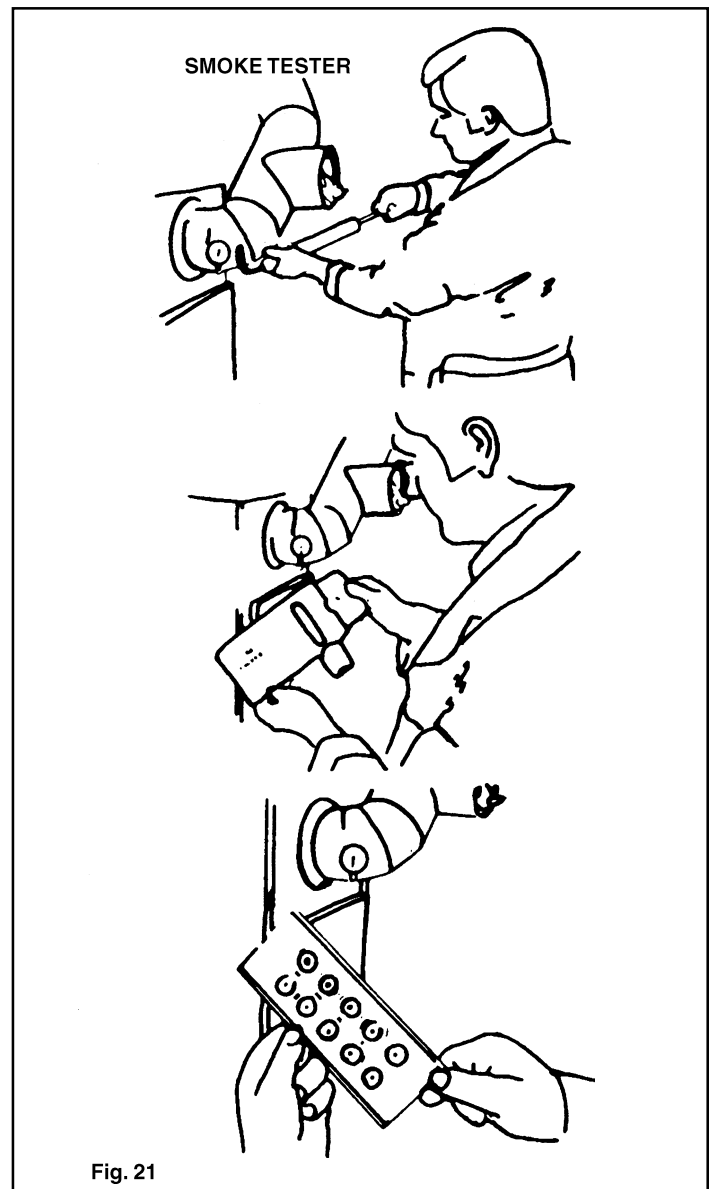

Fig. 21
Step 4. Use efficiency finder chart or stack loss slide rule to determine efficiency. (See Fig. 21.) Be sure to subtract room temperature from stack thermometer reading and use this net stack temperature for determining the efficiency.
Step 5. The filter paper from the smoke test, when compared to the standard, must be determined and be found to be satisfactory. It should never be greater than #2, preferably #1 or zero, depending on local requirements or your own service standard. (See Fig. 21.)